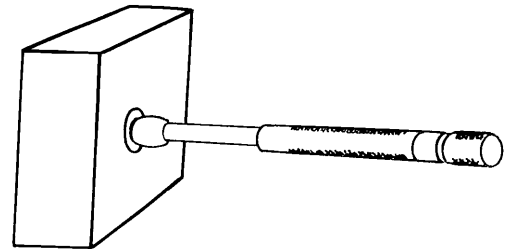

Figure 3-80. Measuring Hole with a Small Hole Gauge
- (1) Insert the proper size gauge in the hole, as shown in figure 3-80.
- (2) Expand the ball by turning the knurled knob in the handle until there is a slight drag of the ball on both sides of the hole.
- (3) Withdraw the gauge and measure the ball with an outside micrometer.